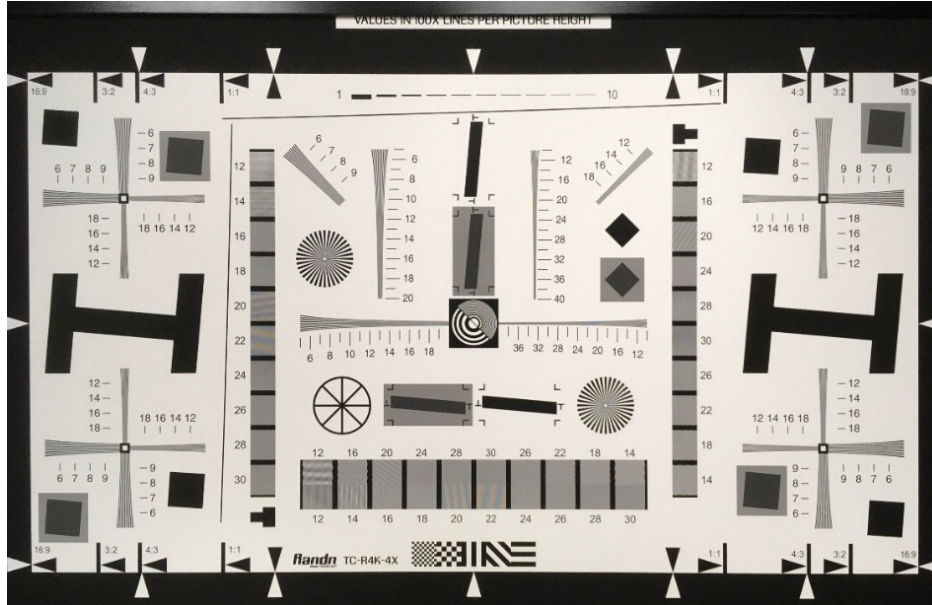

Fig. 4.5: Resolution Card Diagram
Step 1. First, tune the Demosaic parameters for the resolution card using the lab light box under the condition of ambient D50 light source and ISO100 until the objective requirements are met. Next, using this set of Demosaic parameters, we observe whether the lab still scene under ISO100 still meets the requirements, such as whether its high-frequency details can be interpolated, and we iterate back and forth to observe and tune it. Fig. 4.5 is a resolution card diagram. Please refer to *section 5.8.1 “Demosaic Tuning Method”* for specific tuning methods for Demosaic.